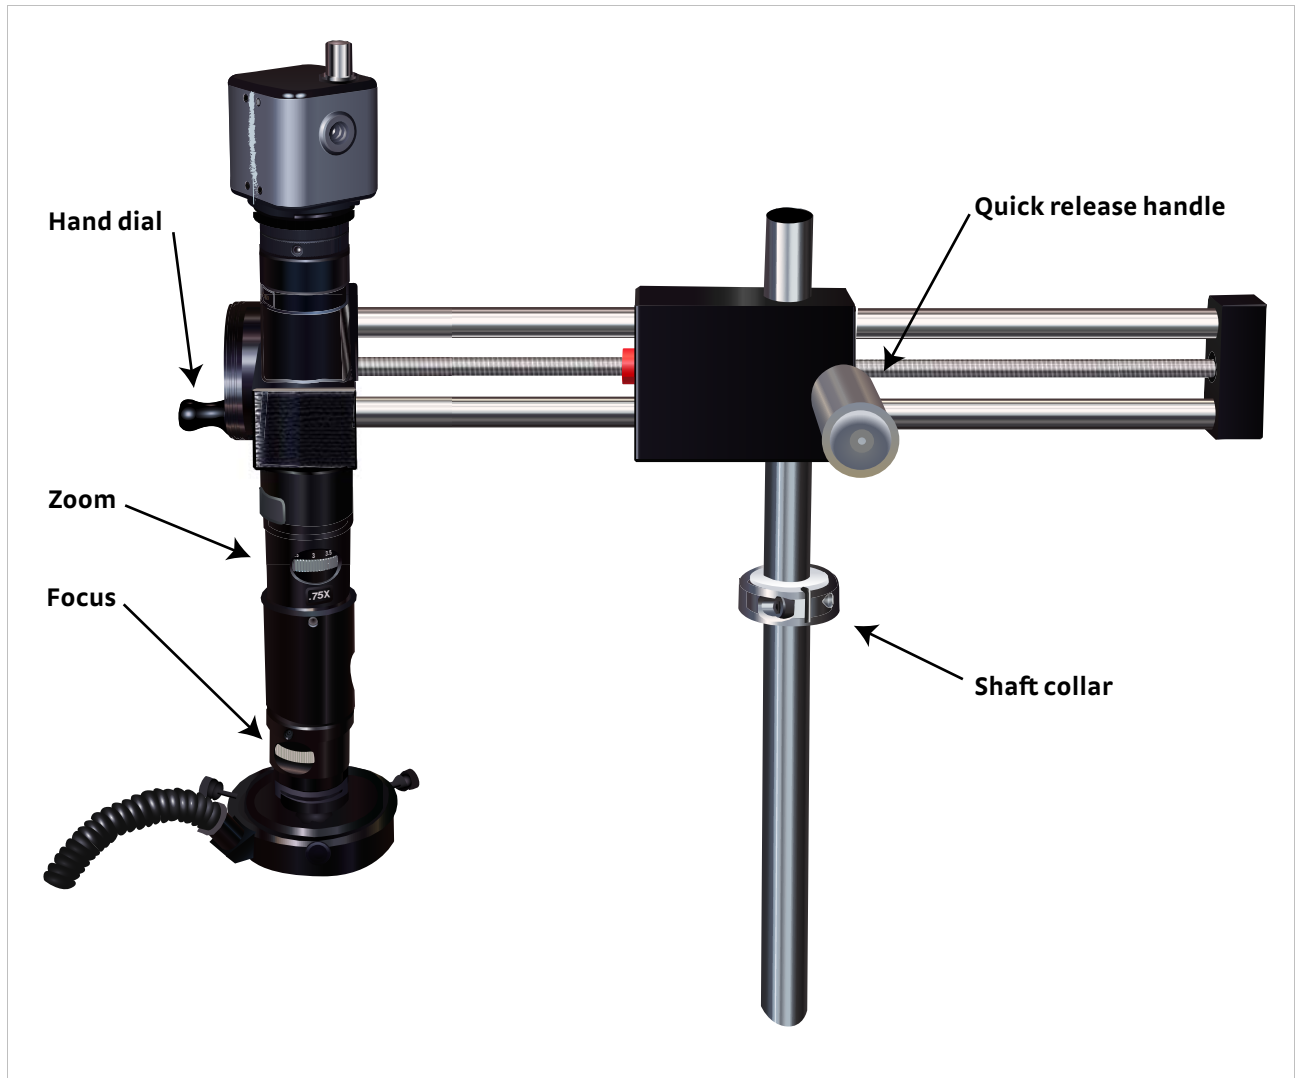

FIGURE 3-20 Attach the s-video cable to the microscope
- b. S-video cable: connect one end to the top of the microscope as well. It will align in only one direction for the connection (FIGURE 3-20). Attach the other end of this cable into the s-video connection on the monitor.